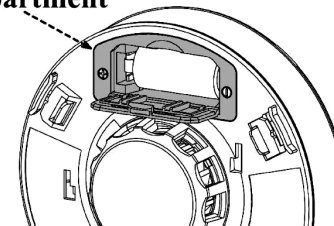

Fig. 8: Battery compartment location
7. Install batteries (see **Fig. 8**)